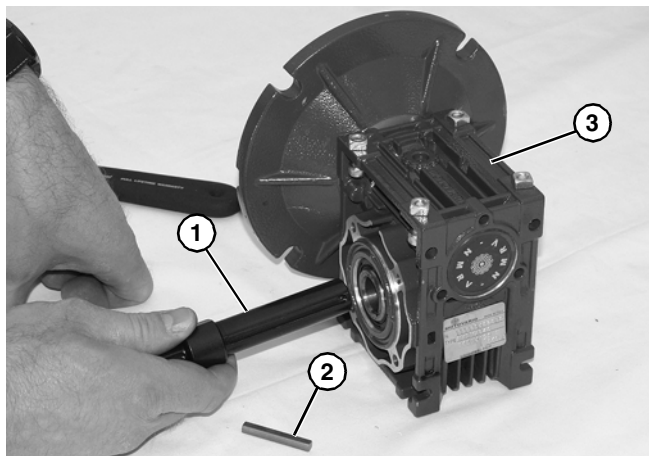

**Figure 23**
2. Loosen driveshaft bolt (**Figure 23, item 1**).
3. Hold the driveshaft with a wrench (**Figure 23, item 2**) as shown to keep shaft from turning, while removing screw with hex wrench (**Figure 23, item 3**).
8. Hold the driveshaft with a wrench (**Figure 23**, item 2) as shown to keep shaft from turning, while installing screw with hex wrench (**Figure 23**, item 3). Tighten screw to 100 in-lb (11.5 Nm) for 42CZ or 350 in-lb (39.5 Nm) for 52C, 63B5 and 71B5.